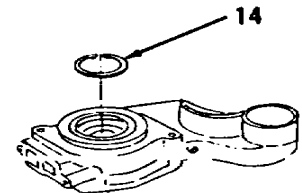

Figure 3-189.
13. Using snap ring pliers, remove ring (14, Figure 3-189).